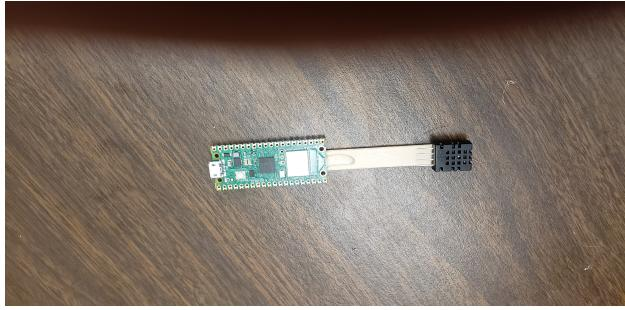

Figure 2: This is the device should look after gluing the pico and DHT20 to the popsicle stick
1. Begin by gluing the Raspberry Pi Pico W and the DHT20 to opposite ends of a popsicle stick using a hot glue gun as shown in figure 2, Make sure the pins of the DHT20 are aligned towards the Pico and that the micro USB header of the pico is aligned such that it is placed on the far end of the popsicle stick. The vent holes must be facing up such that they are not obstructed by any surface, such as the popsicle stick.